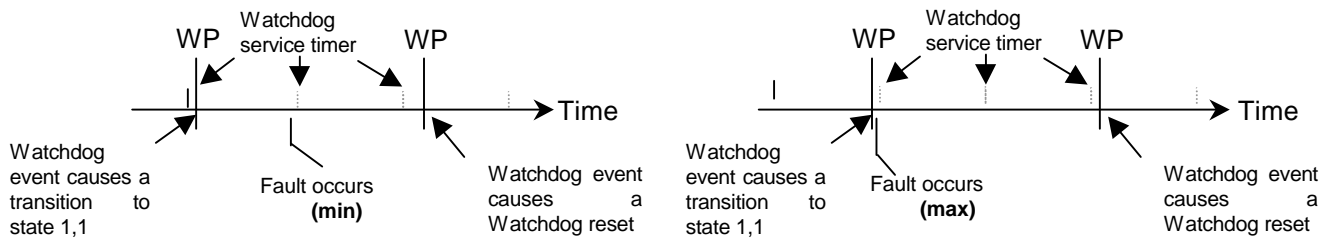

FIGURE 10. Time until a Watchdog Reset for Method 3
For method 3 the minimum and maximum time from a fault occurring until a WDT reset occurs, based on programmed Watchdog Periods (WP), are $\frac{1}{2}$ to 1 WPs based on the point during the WP when the fault occurs. This time is also dependent on the choice of the Watchdog service timer interval. This is shown graphically in Figure 10.